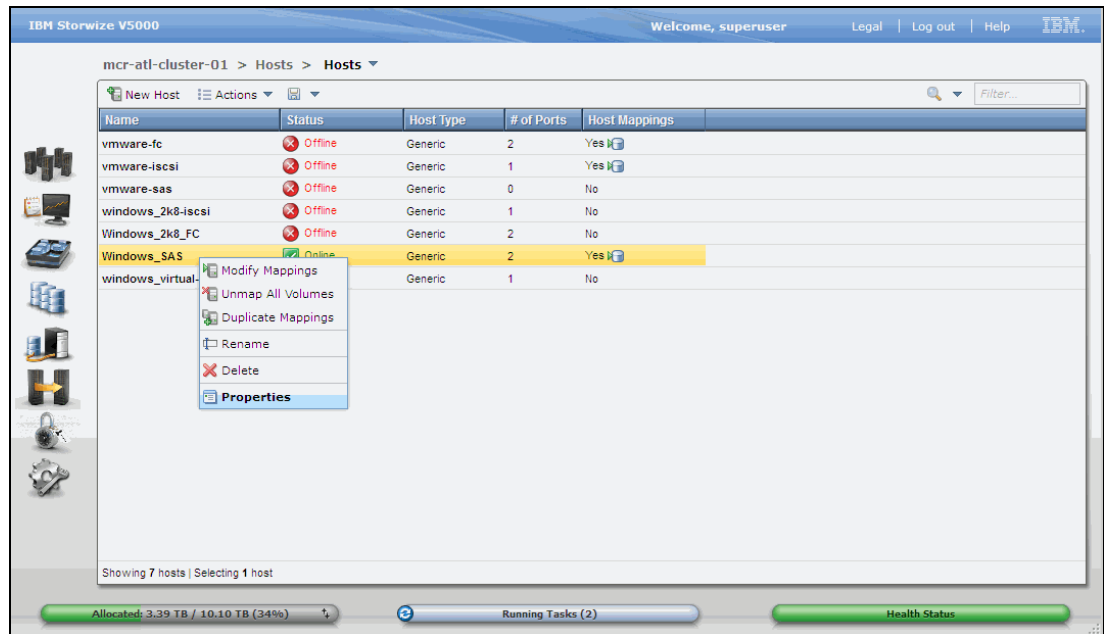

Figure 5-58 Windows SAS host from host view
1. Right-click your Windows 2008 SAS host in the Hosts view and select **Properties**, as shown in Figure 5-58.